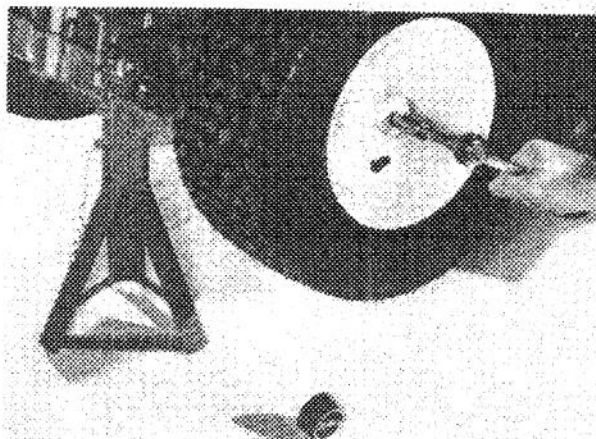

Figure 49
4. Remove the capscrew from the axle (Fig. 49).